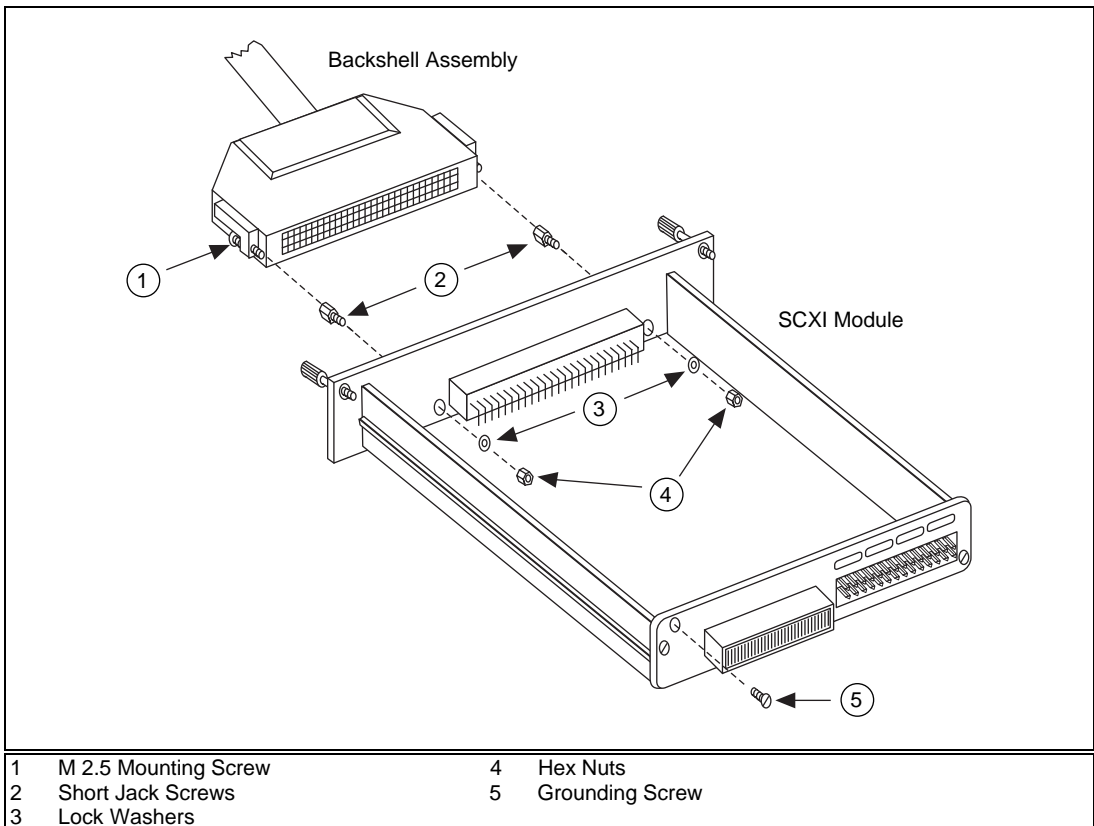

Figure 4. Connecting the SBS-96F Backshell Assembly to the SCXI Module
After completing all signal connections and assembling the SBS-96F backshell as described in the previous section, you are ready to connect the backshell assembly to your SCXI module. Refer to Figure 4 as you perform the following steps.
5. Place one short jack screw as shown in Figure 4.
11. Connect the SBS-96F backshell assembly to your SCXI module front connector and secure the backshell by tightening both M 2.5 mounting screws as shown in Figure 4.